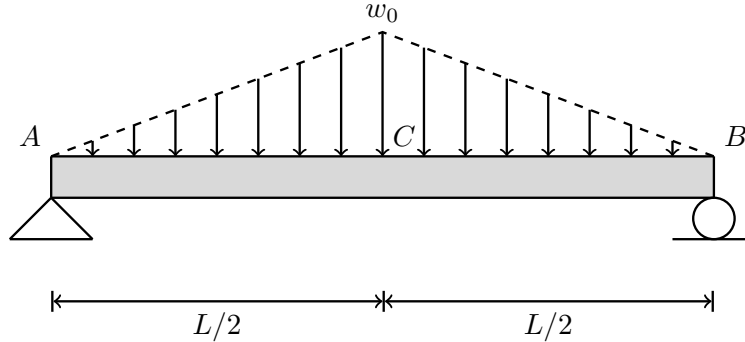

Figure 6
3. Consider a simply supported beam of length L subjected to applied load as shown in Fig. 6. Calculate the reaction forces, shear force, and bending moment at any point along the beam.
Consider a simply supported beam of length L subjected to a symmetric triangular load as shown in Fig. 6, where the load intensity is maximum (w_0) at the center and zero at both ends. Determine the reaction forces, shear force, and bending moment at any point along the beam.